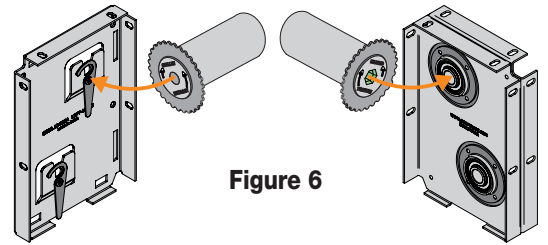

Figure 6
Section 2.5 - Final (Idler-end) Fabric/Roller Assembly (Fig. 6)
5. Installer #1 places the idler-end sliding shaft onto the idler-end bracket (Fig. 6). Lock shaft in place by placing retaining clip on shaft.